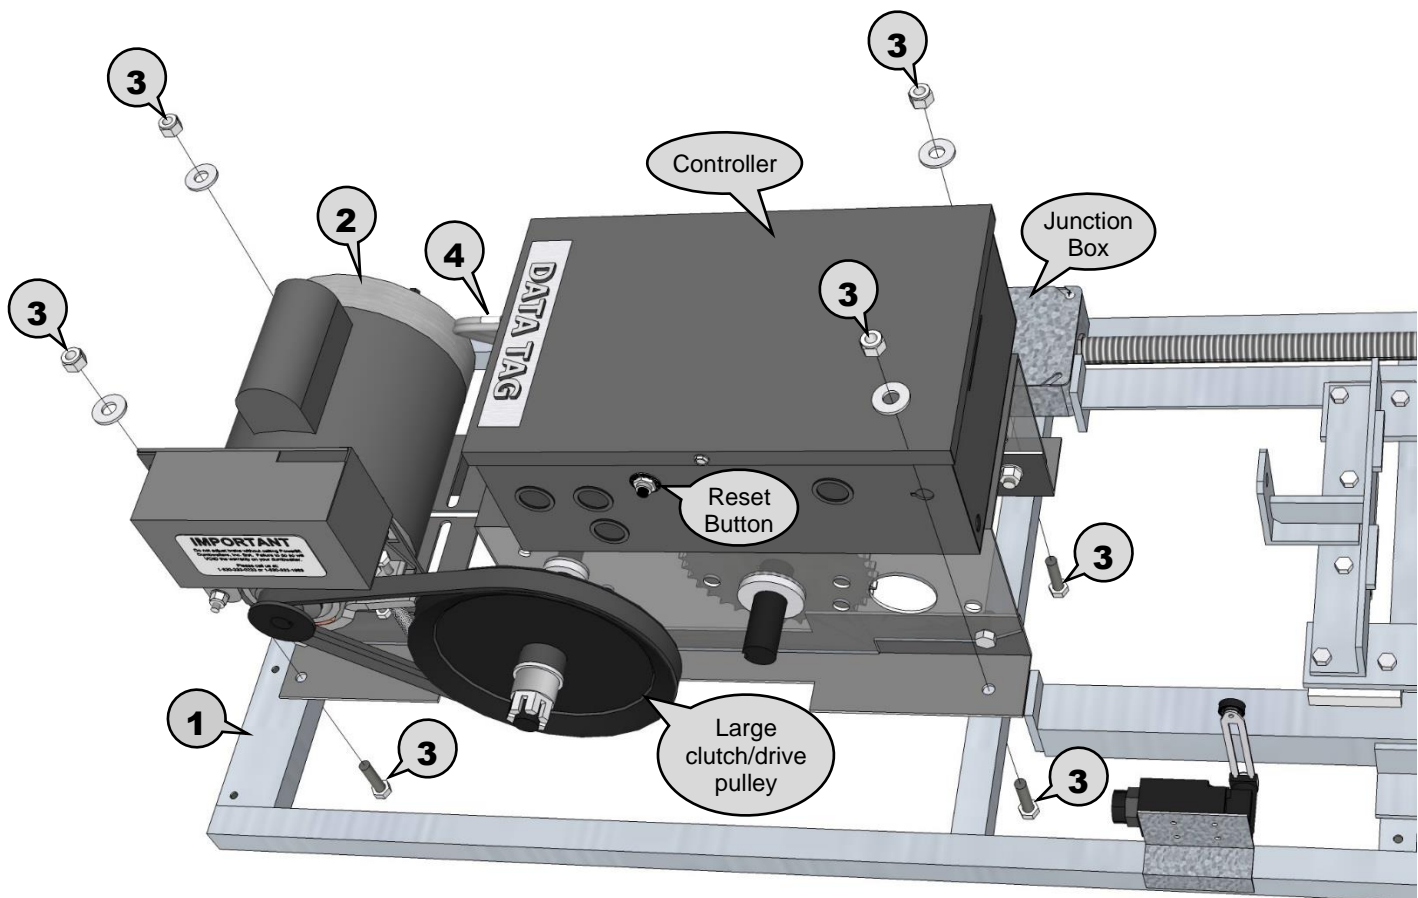

Figure 1
- 2 Remove motor from box and place it on track & rail section from Step 1. (see Figure 1)
- 3 Use four (4) provided bolts, washers, and nyloc nuts to securely fasten motor to track & rail section. (see Figure 1)
- 4 Use factory installed wires from junction box, on the rail next to the motor, to wire in the motor controller. (see Figure 1)
NOTE: If the adjusting bolt won't reach, turn large pulley (see Page 8, Figure 1) to take up any slack in the chain.